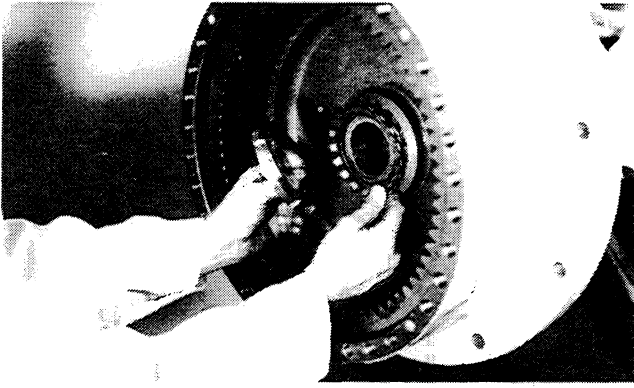

Figure 7:
9. Remove the adjusting nut, nut lock and internal gear hub retaining washer (Fig. 7).